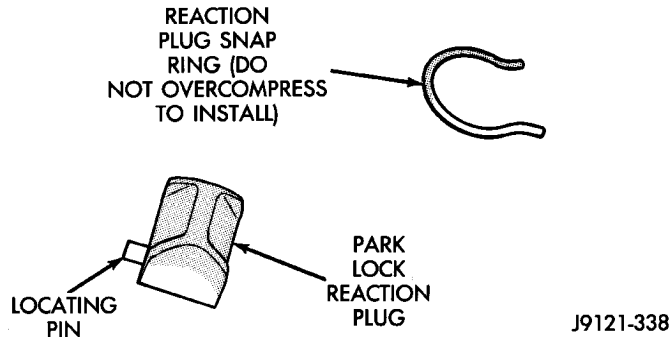

Fig. 239 Reaction Plug Locating Pin And Snap-Ring
(2) Install pawl shaft retaining bolt. Tighten bolt to 27 N·m (20 ft. lbs.) torque.
(3) Install park lock reaction plug. **Note that plug has locating pin at rear (Fig. 239).** Be sure pin is seated in hole in case before installing snap ring.